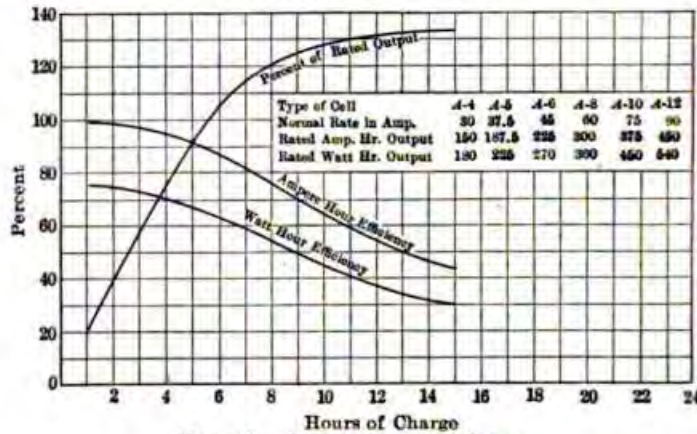

FIG. 59.—Influence of overcharge.
**221. Overcharge.** The Edison battery is not injured by overcharging unless its temperature exceeds 105 to 110 deg. Fahr. High temperatures seriously affect the capacity and life of Edison negative plates, and the manufacturer's guarantee does not hold for overheating from this cause. A continuance of overcharge increases the capacity on the subsequent discharge, but this increase in capacity is obtained at the expense of efficiency. The effect of continued charge is shown in Fig. 59.